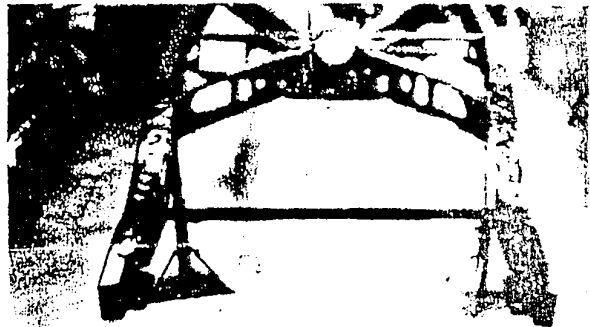

Figure 1
3. We would recommend that at this point, you tack weld or clamp a temporary brace across the frame rails in front of the old crossmember as shown in Figure 1. This helps to maintain the rail dimension after the old crossmember is removed.